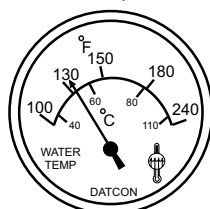

Figure 32. Coolant Temperature Gauge
- The **coolant temperature gauge** (Figure 32) will indicate the coolant temperature. Under normal operating conditions the coolant temperature should be between 180°~221°F (82°~105°C) (**Green Zone**).